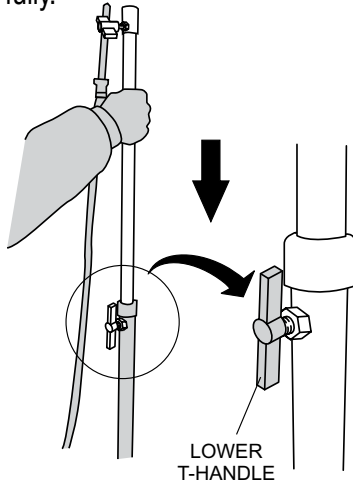

Figure 20. Lowering the Mast
1. Loosen the lower T-handle by turning handle counterclockwise (Figure 20). Push down on mast until mast is fully inserted into mast housing. Tighten T-handle fully.
2. Unzip the zipper on the protective cover (Figure 20), and pull down cover over balloon/lamp assembly.